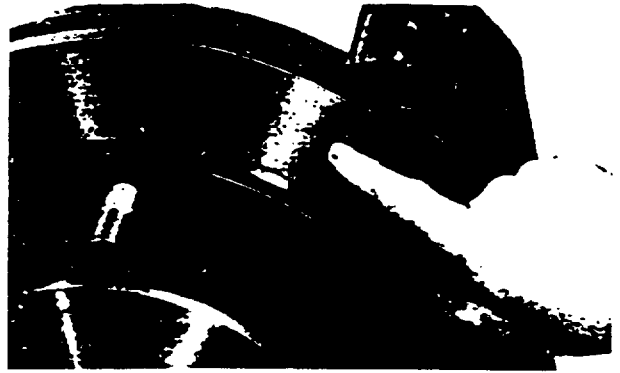

Figure 8-61. Checking Rotor Surface
25. Always check the hub and rotor braking surface for deep scores, cracks, and heat checks. See Figure 8-61.